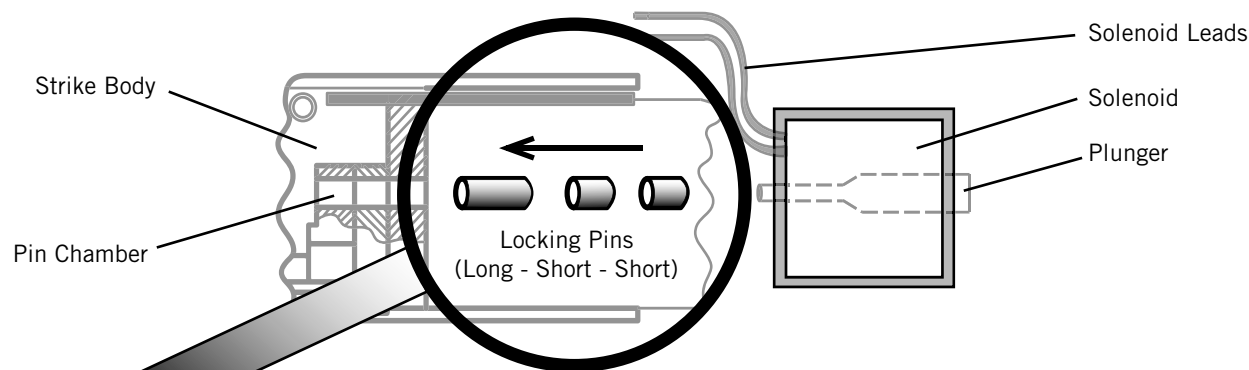
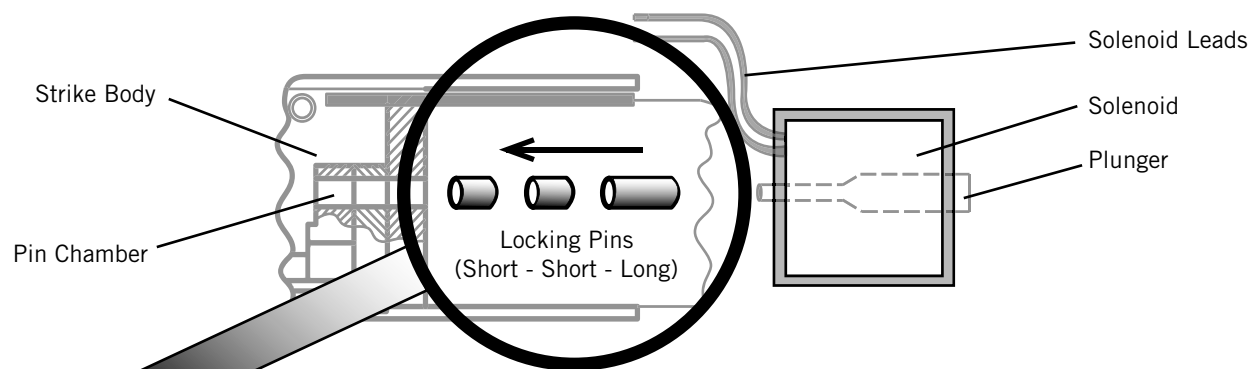

Fig. 5 - Power To Open (Fail-Secure) Configuration
Fig. 6 - Power To Lock (Fail-Safe) Configuration
3. Re-insert the pins as shown in the diagrams for desired mode of lock operation (Power to Open: see Fig. 5; Power to Lock: see Fig. 6).